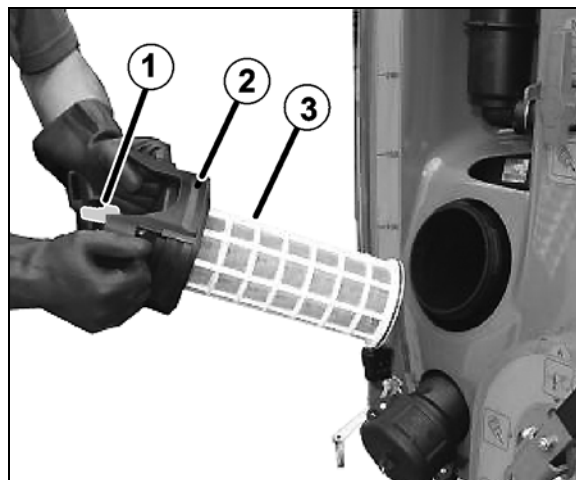

Fig. 147
Clean the suction filter (Fig. 147) on a daily basis after cleaning the field sprayer.
1. Unscrew the cover of the suction filter (Fig. 147/2).
2. Remove the cover with suction filter (Fig. 147/3) and clean with water.
5. Loosen cover plate on the suction filter (Fig. 147/1).
6. Activate relief valve on the suction filter (Fig. 147/2).
7. Remove cover plate and suction filter (Fig. 147/3) and clean with water.